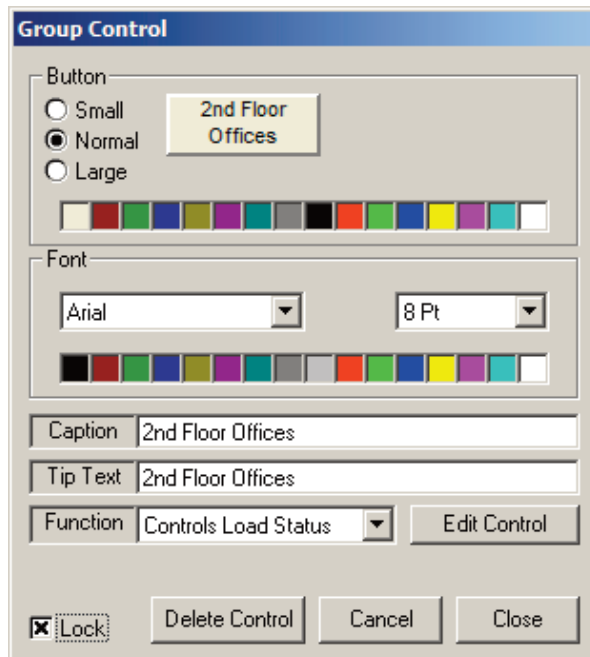

Figure 2.9 Group Control
3. Right click on the new Insite Group button to begin defining its appearance and control as shown in figure 2.9.